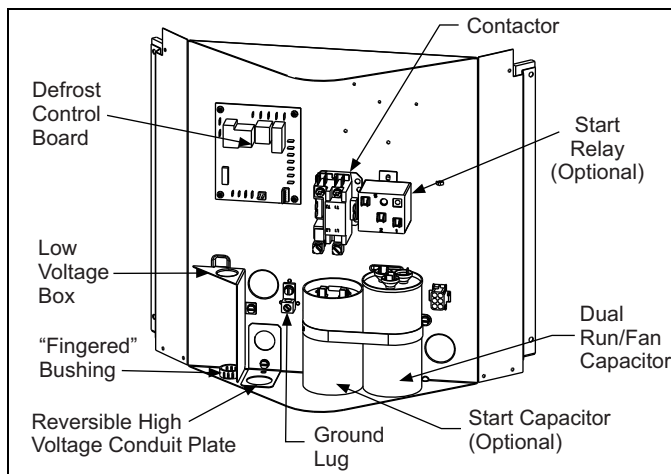

FIGURE 6: Outdoor Unit Control Box - Single Phase
4. Route wires from disconnect through power wiring opening provided and into the unit control box as shown in Figures 6 or 7.
1. Route low voltage wiring into bottom of control box as shown in Figures 6 or 7. Make low voltage wiring connections inside the low voltage box per Figures 8-9.